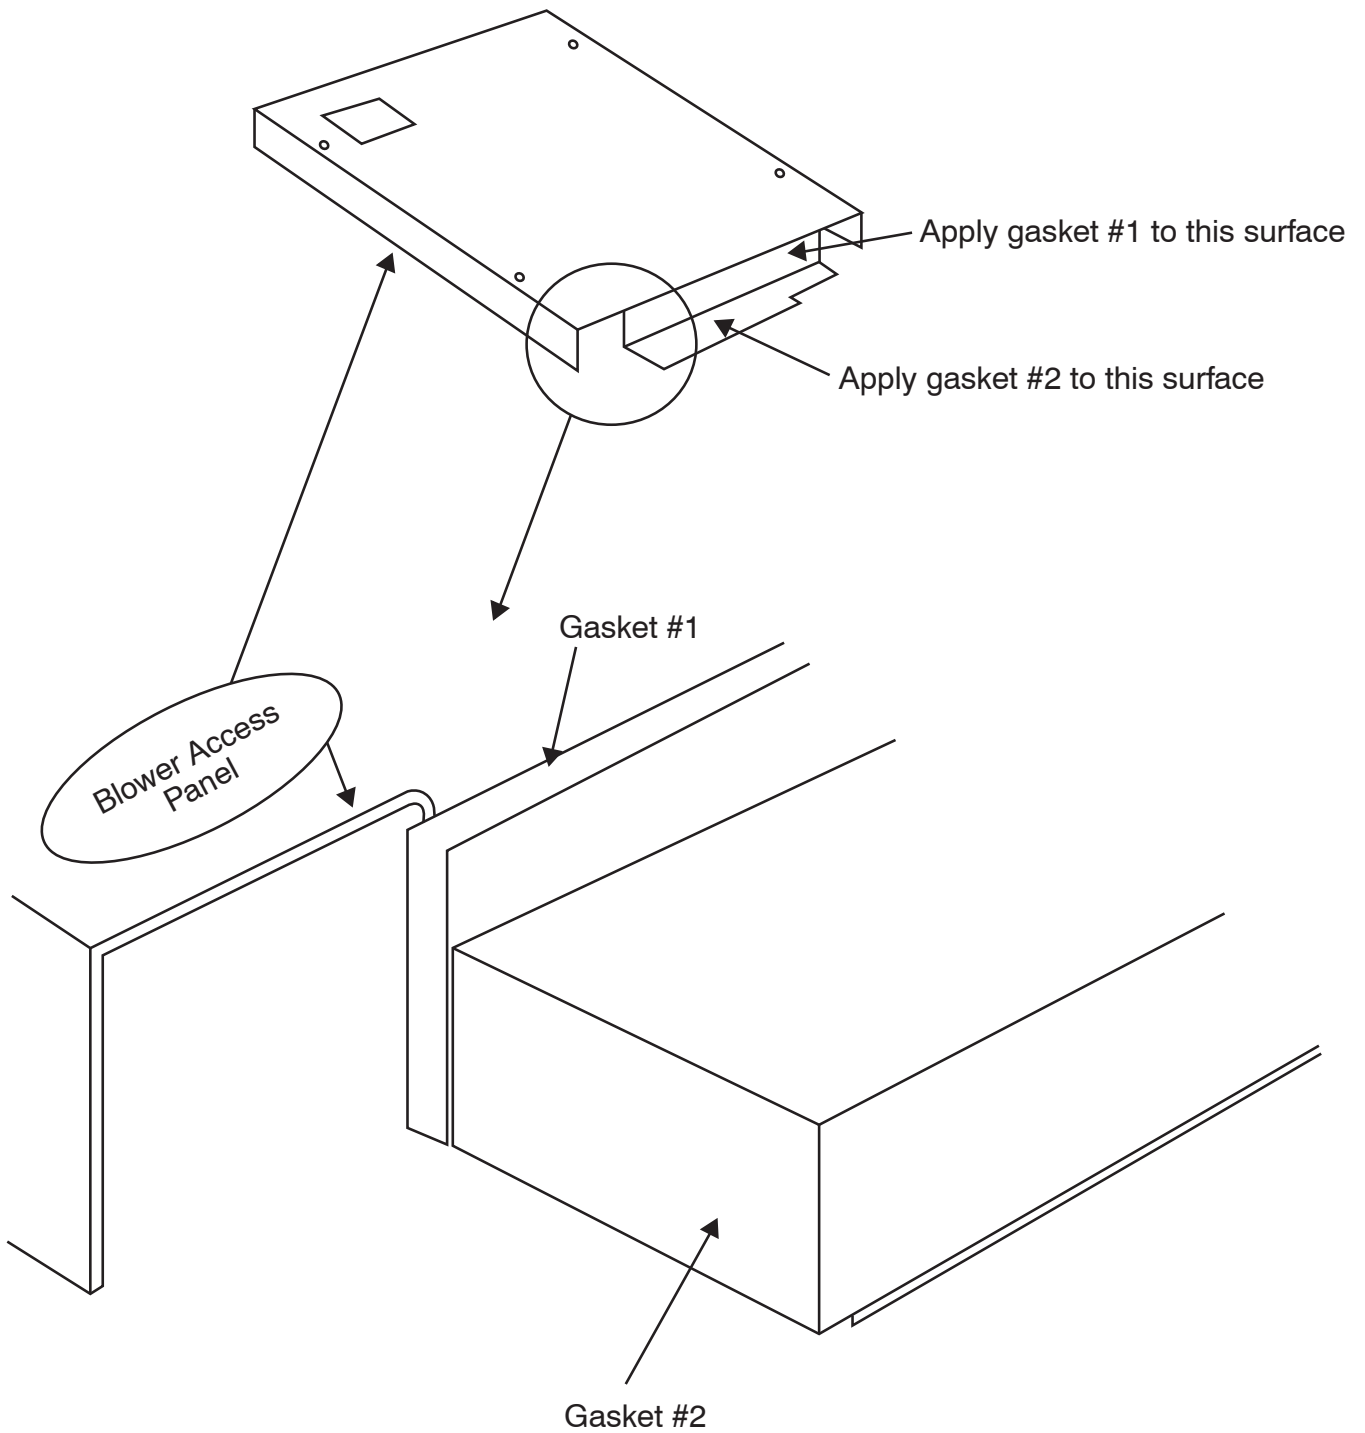

Fig. 1 - Gasket Application on the Blower Access Panel
2. Apply gasket 1 referring to Fig. 1. Center in the first flange with slight overhang on both ends. Cover the flange completely.
3. Apply gasket 2 referring to Fig. 1. Center on the second flange with slight overhang on each end. Align the notch with the flange notch.